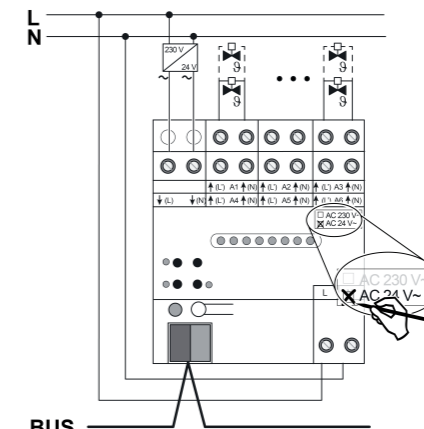

Figure 4: Connection of actuators 24 V
- o Connect the AC 24 V valve drives according to the connection diagram (figure 4).
- o Connect the supply for the valve drives to the terminals 8(L) and 8(N) (1).
- o Connecting the mains voltage to the terminals (5).